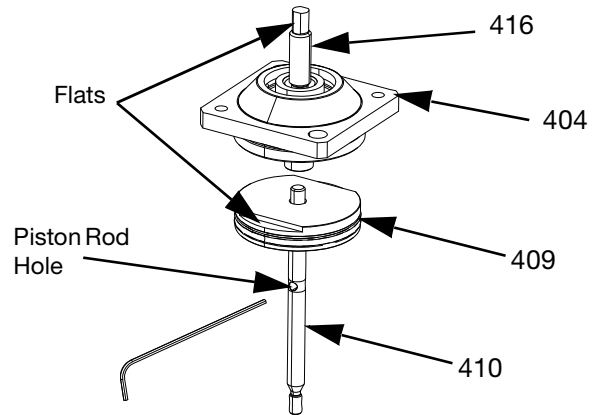

FIG. 18
4. Use a clean cloth to remove all material inside the Air Section (B). Inspect for damage such as scoring marks.
5. For valves with snuff-back tip assemblies (FIG. 18):
- a. Remove the piston rod assembly (409 and 410) from the rod adapter (416) and the air end cap (404). Hold the piston rod (410) with an Allen key through the piston rod hole and unthread the rod adapter (416).
- b. Place a wrench on the piston (409) flats, and an Allen key through the hole in the piston rod (410).
- c. Unthread the piston (409) from the piston rod (410).